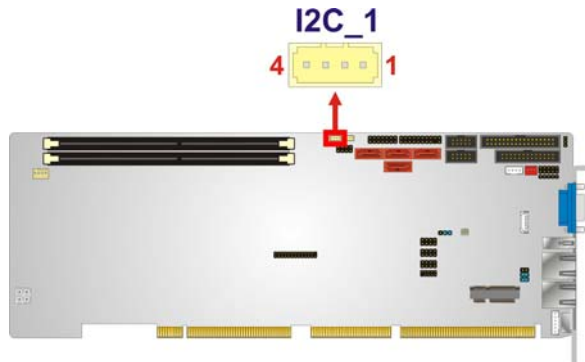

Figure 3-13: I2C Connector Location
- CN Location:** See **Figure 3-13**